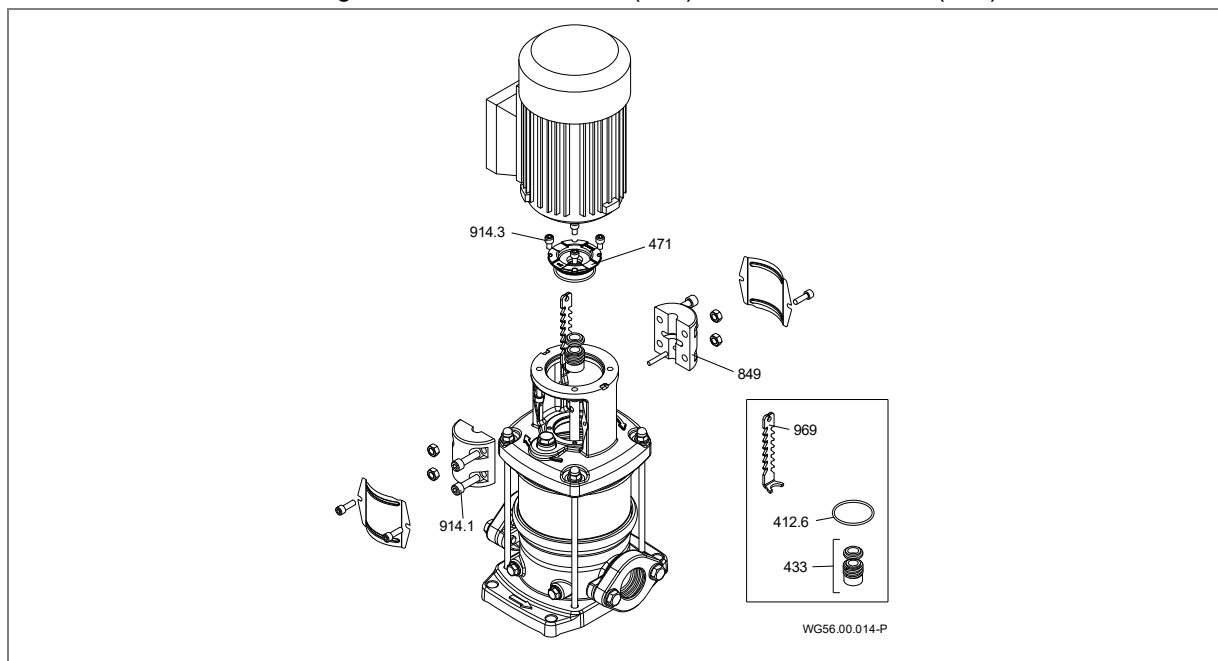

Fig. 16
See "Fig. 16" on page 31
- ➔ Observe figure 16.
- 1. Position the O-ring (412.6) and the counter ring of the mechanical seal (433) in the discharge cover (471).
- 2. Slide the spacer sleeve (523.2) onto the shaft (211).
- 3. Assemble the rotating unit of the mechanical seal (433) on the shaft (211).
- 4. Slide the discharge cover (471) over the shaft (211) and push it into the drive lantern (161).